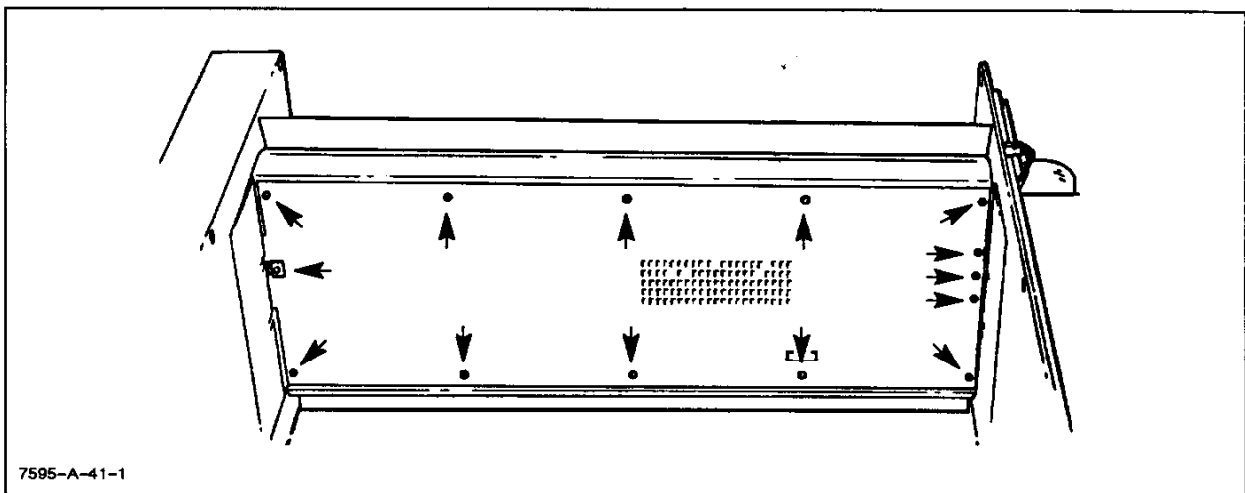

Figure 6-43. Bottom Cover Removal
- a. Turn the plotter line switch to OFF (O) and disconnect the ac power cord.
- c. Remove the ten hex nuts (9/32 in.) and four screws (Torx #15) that secure the bottom cover. Carefully remove the cover so that the side panel does not get scratched. See Figure 6-43.